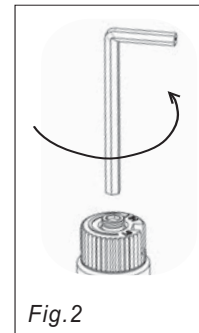

Fig. 2
- 12) Insert a 5/32" or 4mm Allen wrench into the hexagonal key-way of the screw (Fig. 2), rotate it counter-clockwise until it is free and extract it.